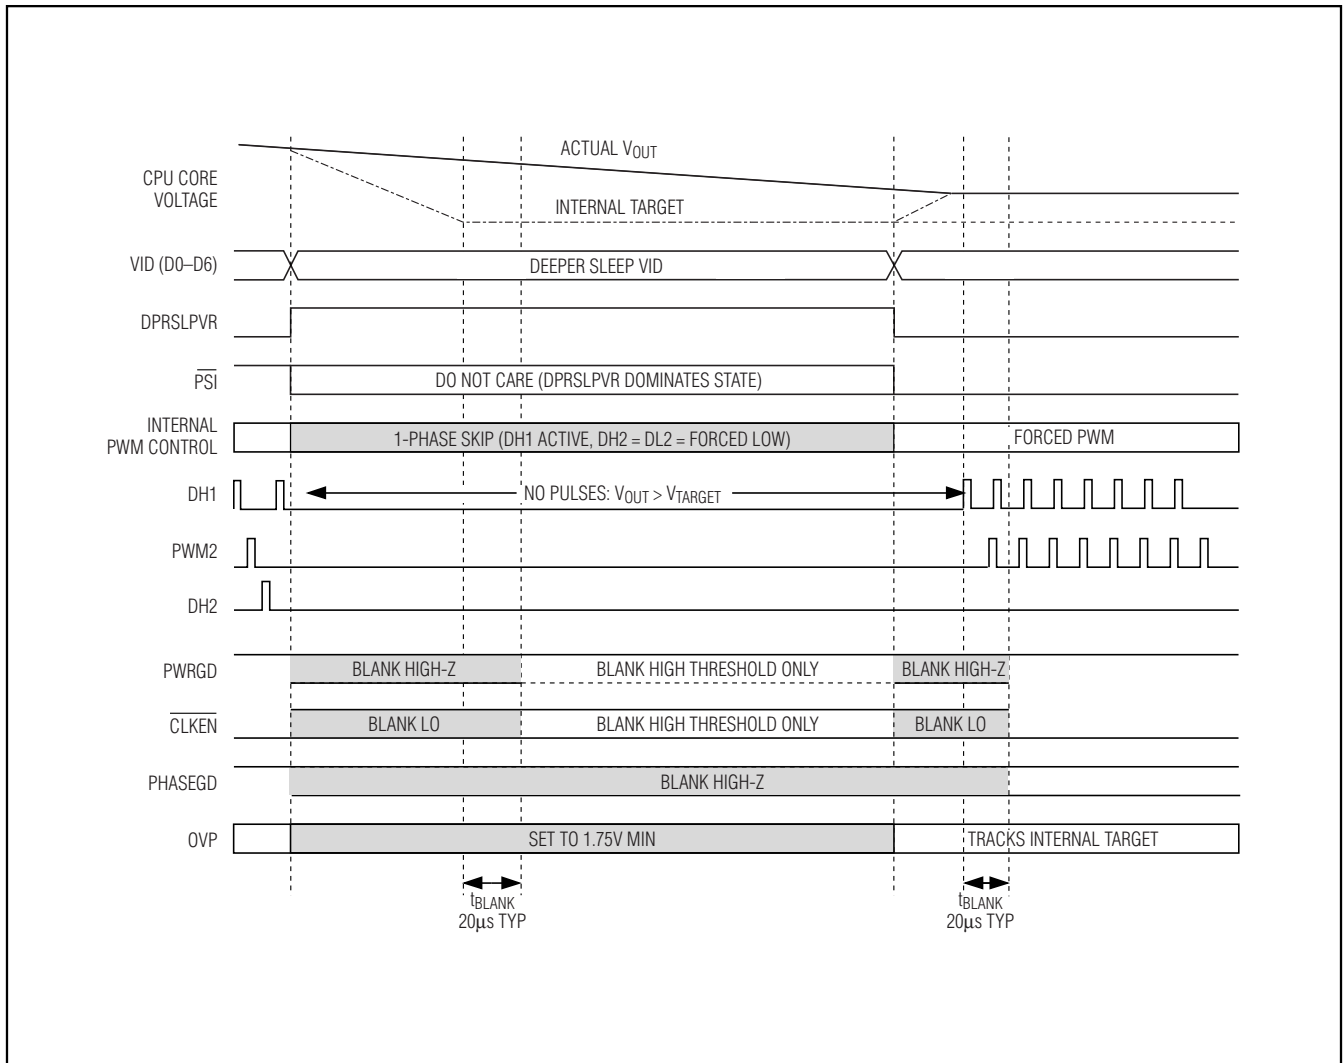

Figure 4. C4E (C4 Early Exit) Transition
When DPRSLPVR goes high, the MAX8770/MAX8771/MAX8772 immediately disable phase 2 (DH2 and DL2 forced low), blank PHASEGD high impedance (MAX8771 only), and enter pulse-skipping operation (see Figures 4 and 5). If the VIDs are set to a lower voltage setting, the output drops at a rate determined by the load and the output capacitance. The internal target still ramps as before, and CLKEN and PWRGD upper and lower thresholds remain blanked until 20μs after the internal target reaches the programmed VID code. Once this time expires, PWRGD monitors only the lower threshold:
- **Fast C4E Deeper Sleep Exit:** When exiting deeper sleep (DPRSLPVR pulled low) while the output voltage still exceeds the deeper sleep voltage, the MAX8770/MAX8771/MAX8772 quickly slew (50mV/μs min regardless of RTIME setting) the internal target voltage to the DAC code provided by the processor as long as the output voltage is above the new target. The controller remains in skip mode until the output voltage equals the internal target. Once the internal target reaches the output voltage, phase 2 is enabled. The controller blanks PWRGD, PHASEGD, and CLKEN (forced high impedance) until 20μs after the transition is completed. See Figure 4.